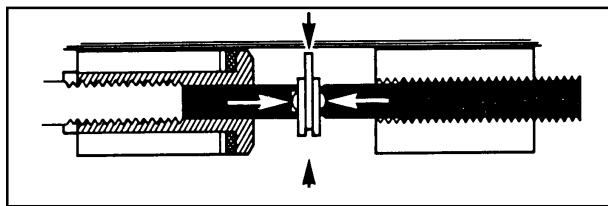

Figure 22. Forming a Rivet Head
6. Turn the spinner crank while slowly turning the take-up handle inward (approximately one full revolution) until the rivet head is formed (figure 22). Note that the take-up handle provides pressure while the spinner anvil forms the rivet head.